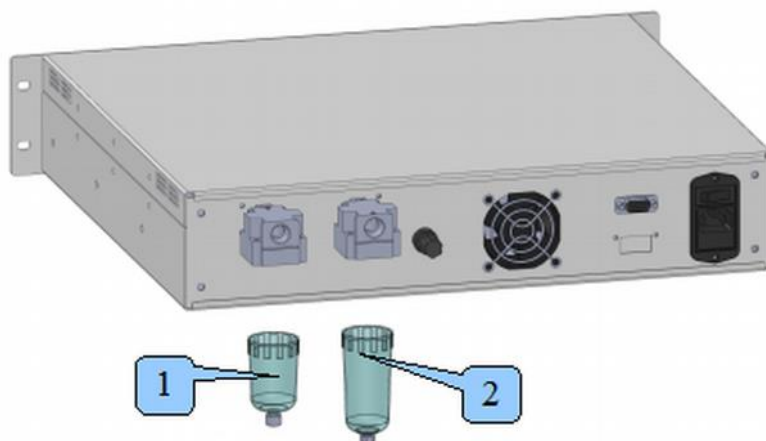

Figure 4
- **In case of installation on rack-mount sliding rails, unscrew the two polycarbonate bowls of filters (1) - (2) before inserting/extracting the device (Figure 4).**